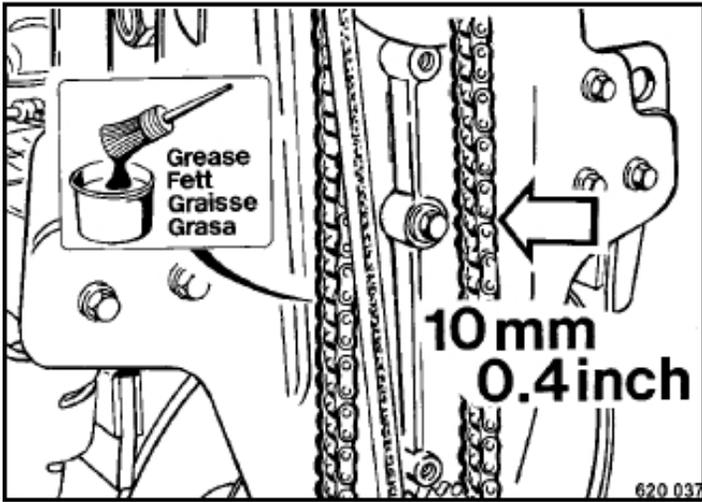

Fig. 42
- | Check the condition and tension of the chain (Fig. 42).